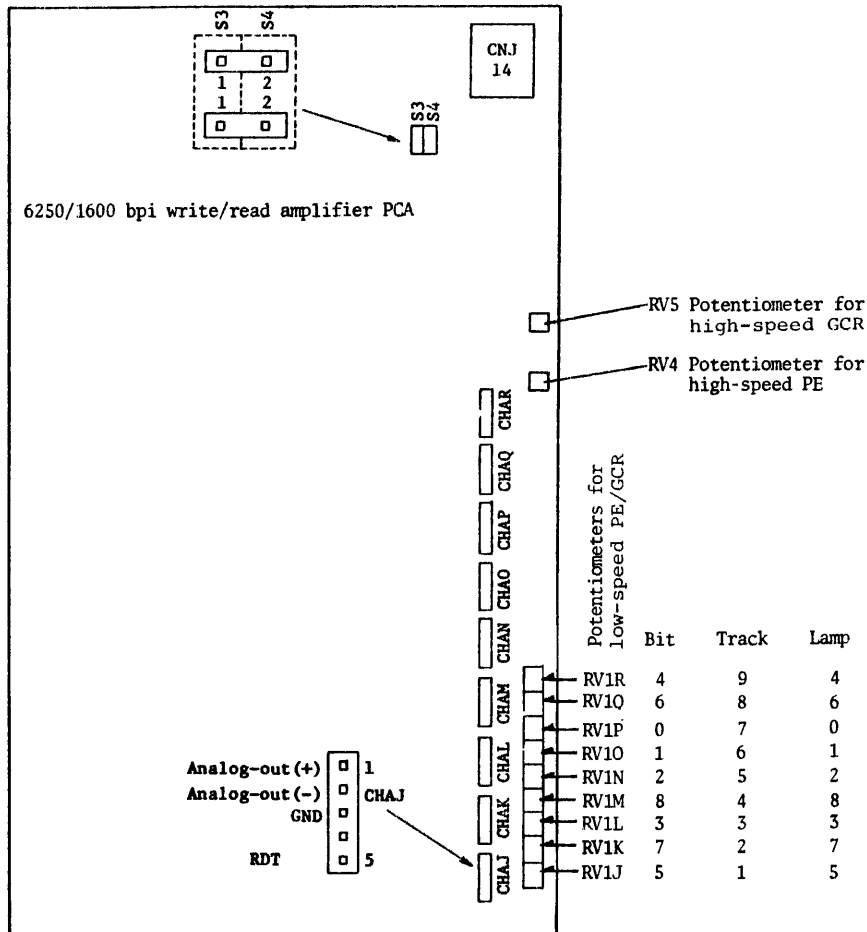

Figure 4-11. Potentiometers and check terminals for lamps 0 through 8 on write/read amplifier PCA.
- (1) Press the UNLOAD/REWIND button on the MTU front panel and remove the tape from the reel.
- (2) Demagnetize the read/write (R/W) head with the head eraser (P/N CT-HE-3-AC117 V-60 Hz-Sony).
- (3) Install master skew tape (P/N BM.BvMt 351d) and press LOAD/REWIND on the MTU control panel.
- (4) Connect a dual-trace oscilloscope to the Write/Read amplifier PCA, tracks 1 and 9, as shown in Figure 4-9. The designations on the write/read amplifier PCA for tracks 1 through 9 are shown in Figure 4-10. Five pins are associated with each track on the PCA. Connect the oscilloscope to pin #5 as shown in Figure 4-11.
- (5) Set the field tester ONL/OFL switch to OFL.
- (5) Adjust the corresponding potentiometers (RV1R through RV1J) in Figure 4-11, if necessary, to obtain semi-luminous status for lamps 0 through 8. Toggle the SSS switch to stop the tape.
- (8) Adjust the corresponding potentiometers shown in Figure 4-11, if necessary. Toggle the SSS switch to stop the tape.
- (9) Set the field tester switches S0 through S7 to \$FB, and toggle the SSS switch to set the slice level to 110%.
- (11) Adjust the corresponding potentiometers shown in Figure 4-11, if necessary. Toggle the SSS switch to stop the tape.
- (5) Adjust potentiometer RV4 shown in Figure 4-11 so that four or more of lamps 0 through 8 are lit. After adjustment, toggle the SSS switch to stop the tape.
- (6) Set the field tester switches S0 through S7 to \$F5, and toggle the SSS switch to set the slice level to 80%.